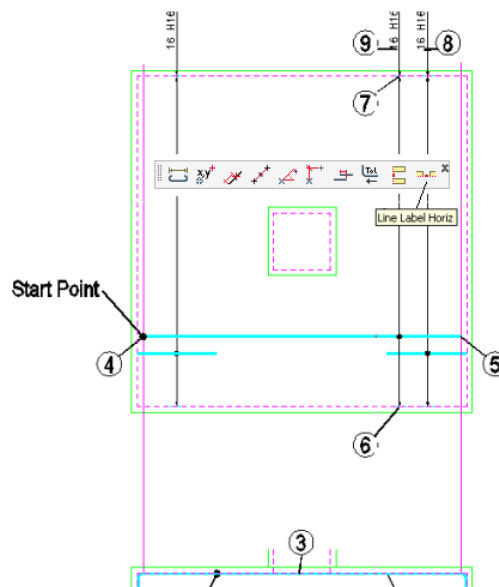

Figure 4.7.18:3 Placing order to add lap bar and range to the Plan View
- ▶ Place the Straight Bar as indicated in figure 4.7.18:3 above using the CADS RC Snap Line Label Horizontal to line up the Bar Labels. Note that construction lines have already been added to ease the placement of the bar;